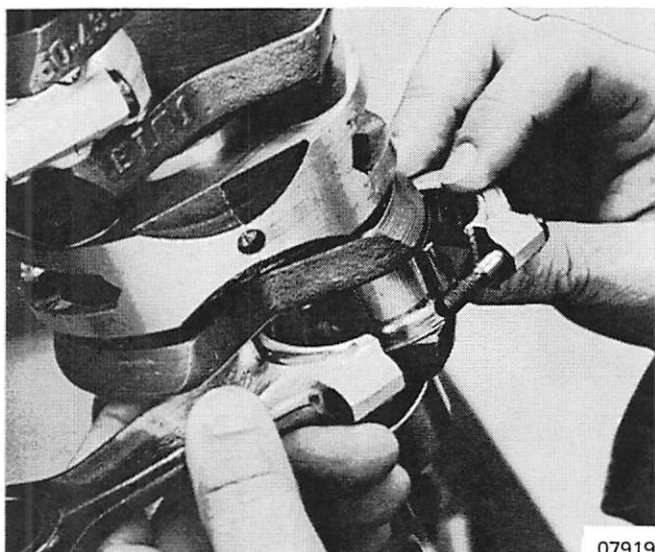

Figure 4. Removing Connecting Rod
6. Remove connecting rod nuts and bolts and remove rod caps and connecting rods, bearings and cages. (Figure 4) Keep rod caps, connecting rods and bearings together. Discard connecting rod nuts and bolts. Number rods during removal.